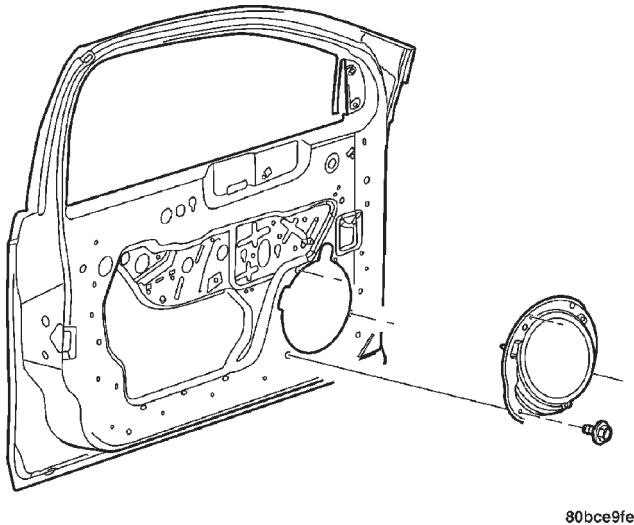

Fig. 5 Front Door Speaker Remove/Install
(2) Remove front door trim panel, refer to Group 23 Body, Front Door Trim Panel Removal and Installation.
(3) Remove three speaker retaining screws (Fig. 5).